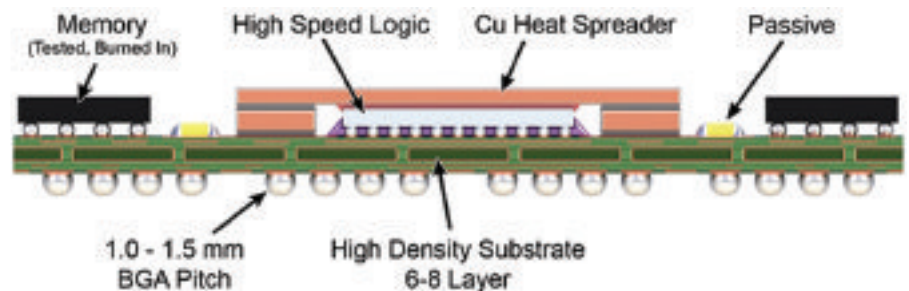

FIGURE 1. Heterogeneous System-in-Package (SiP) as an extension of proven flip-chip (FC) packaging technology. (Source: Amkor)
The most functionality at the least cost is the promise of wafer-level packaging (WLP) when dealing with complex integrated circuits (IC) with a high number of input/output connections to the outside world. Integration of heterogeneous circuit functions -- such as micro- and graphics-processing, field-programmable gate array (FPGA) logic, dynamic and static memory, radio-frequency (RF) and analog, and sensing and actuating -- may also be needed at the package-level to be able to deliver complete systems (FIGURE 1).